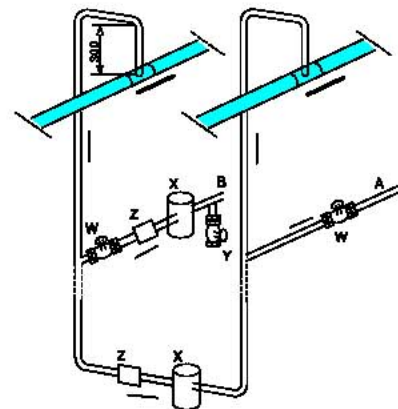

Figure 1: Connecting steamlines
- To get dry steam the connection of a steam trap with non-return valve on the lowest point of the supply to the drainage (dotted line fig. 1) is recommended. Mark the marking 'entry' and 'exit'.
- Only for steam heated machines: Check the steam pressure (maximum 9 bar, recommended working pressure 6 bar), close the blow off cock (Y, see figure 1) and open the steam shut off valves (W) completely.
- Connect an air pressure line (¼" BSP) to the air control (2) and set the desired air pressure on the air control (maximum 6 bar, recommended air pressure 5 bar).
- Turn the main switch (1) 'ON'.
- Open the air circuit by pushing switch (3) up.
- Check if the air flow valve (4) is fully opened (to +).
- Press push button steaming (26): the machine will start to steam.
- Press push button blowing (27): the machine will start to blow.
- Adjust closing tension of hem clamps (030) / tension of trouserleg tension blades (031) to 3 bar (8+9) (adjustment: pull out knob, adjust, push knob back in).